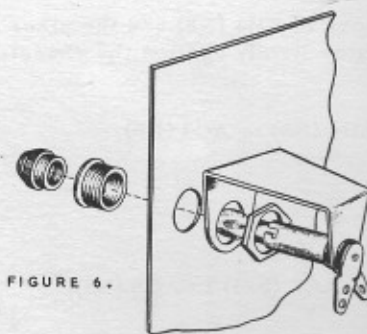

FIGURE 6.
- () Mount the pilot lamp socket PP, following Figure 6 for assembly details. Insert the 6v pilot lamp.